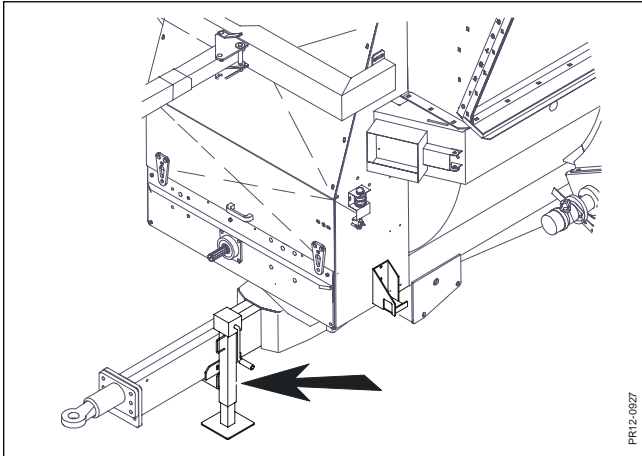

Fig. 4.8
- Fig. 4.8** A manual jack is optional (re. spare parts No.: see spare parts list), it is, however, standard on the “S”-version.